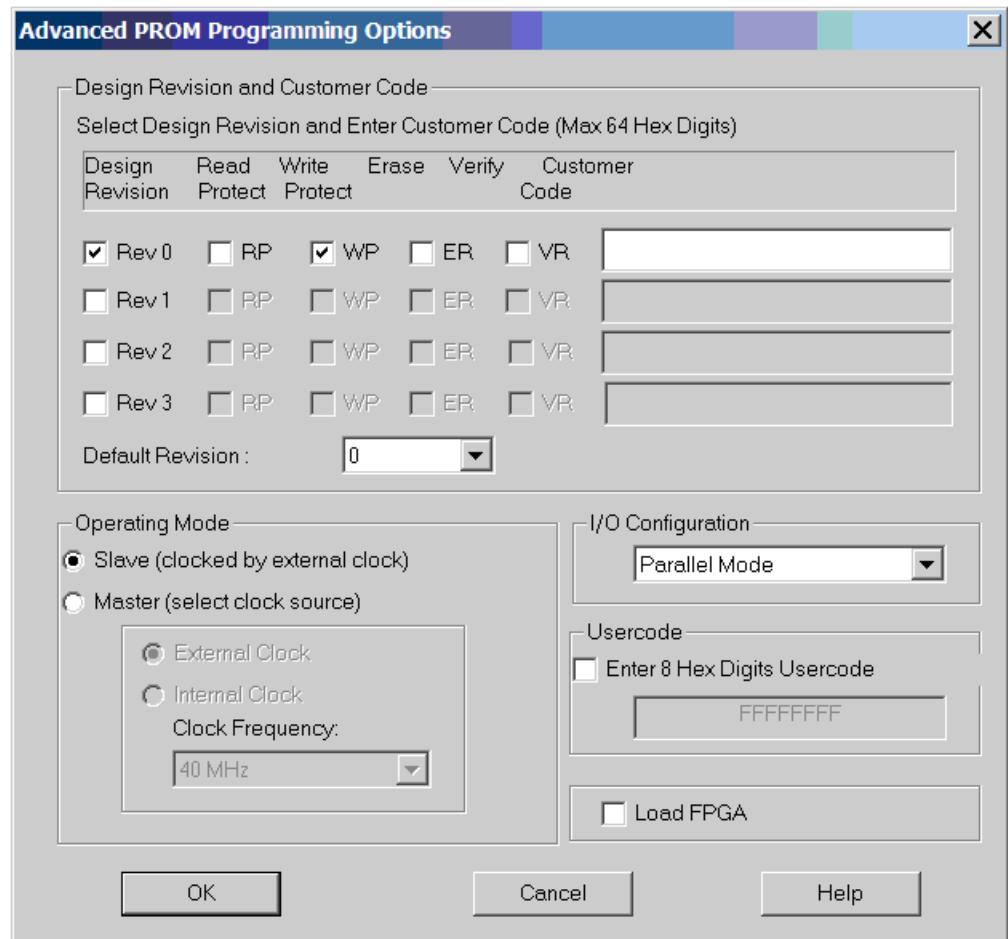

Figure C-8: PROM Programming Options
11. The iMPACT software responds with a form that allows the user to specify which design revisions are to be programmed and the programming options for the various revisions. Select Design Revision Rev 0 and set the Write Protect (WP) bit to prevent the user from overwriting the Golden configuration. Verify that the Operating Mode is set to Slave and the I/O Configuration is set to Parallel Mode as shown in Figure C-8.